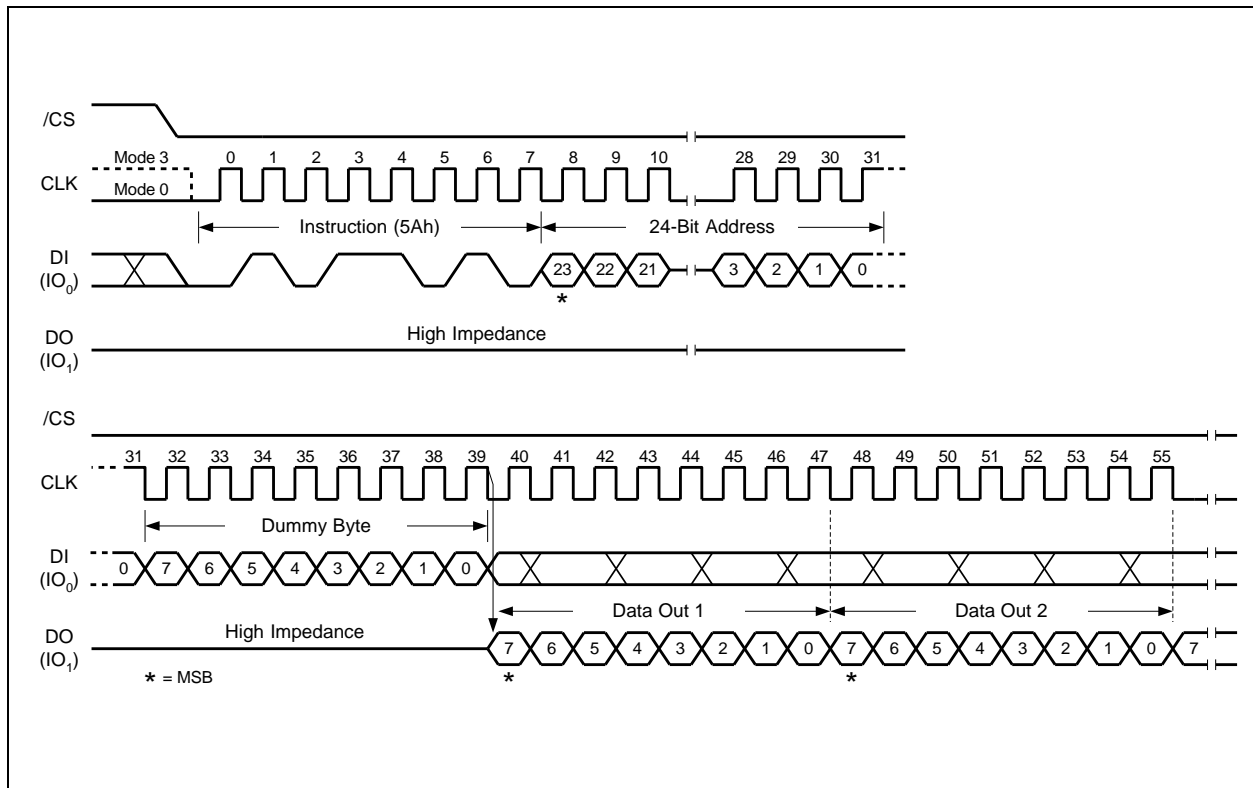

Figure 44. Read SFDP Register Instruction Sequence Diagram (SPI Mode only)
The Read SFDP instruction is initiated by driving the /CS pin low and shifting the instruction code “5Ah” followed by a 24-bit address (A23-A0)(1) into the DI pin. Eight “dummy” clocks are also required before the SFDP register contents are shifted out on the falling edge of the 40th CLK with most significant bit (MSB) first as shown in Figure 44. For SFDP register values and descriptions, please refer to the Winbond Application Note for SFDP Definition table.